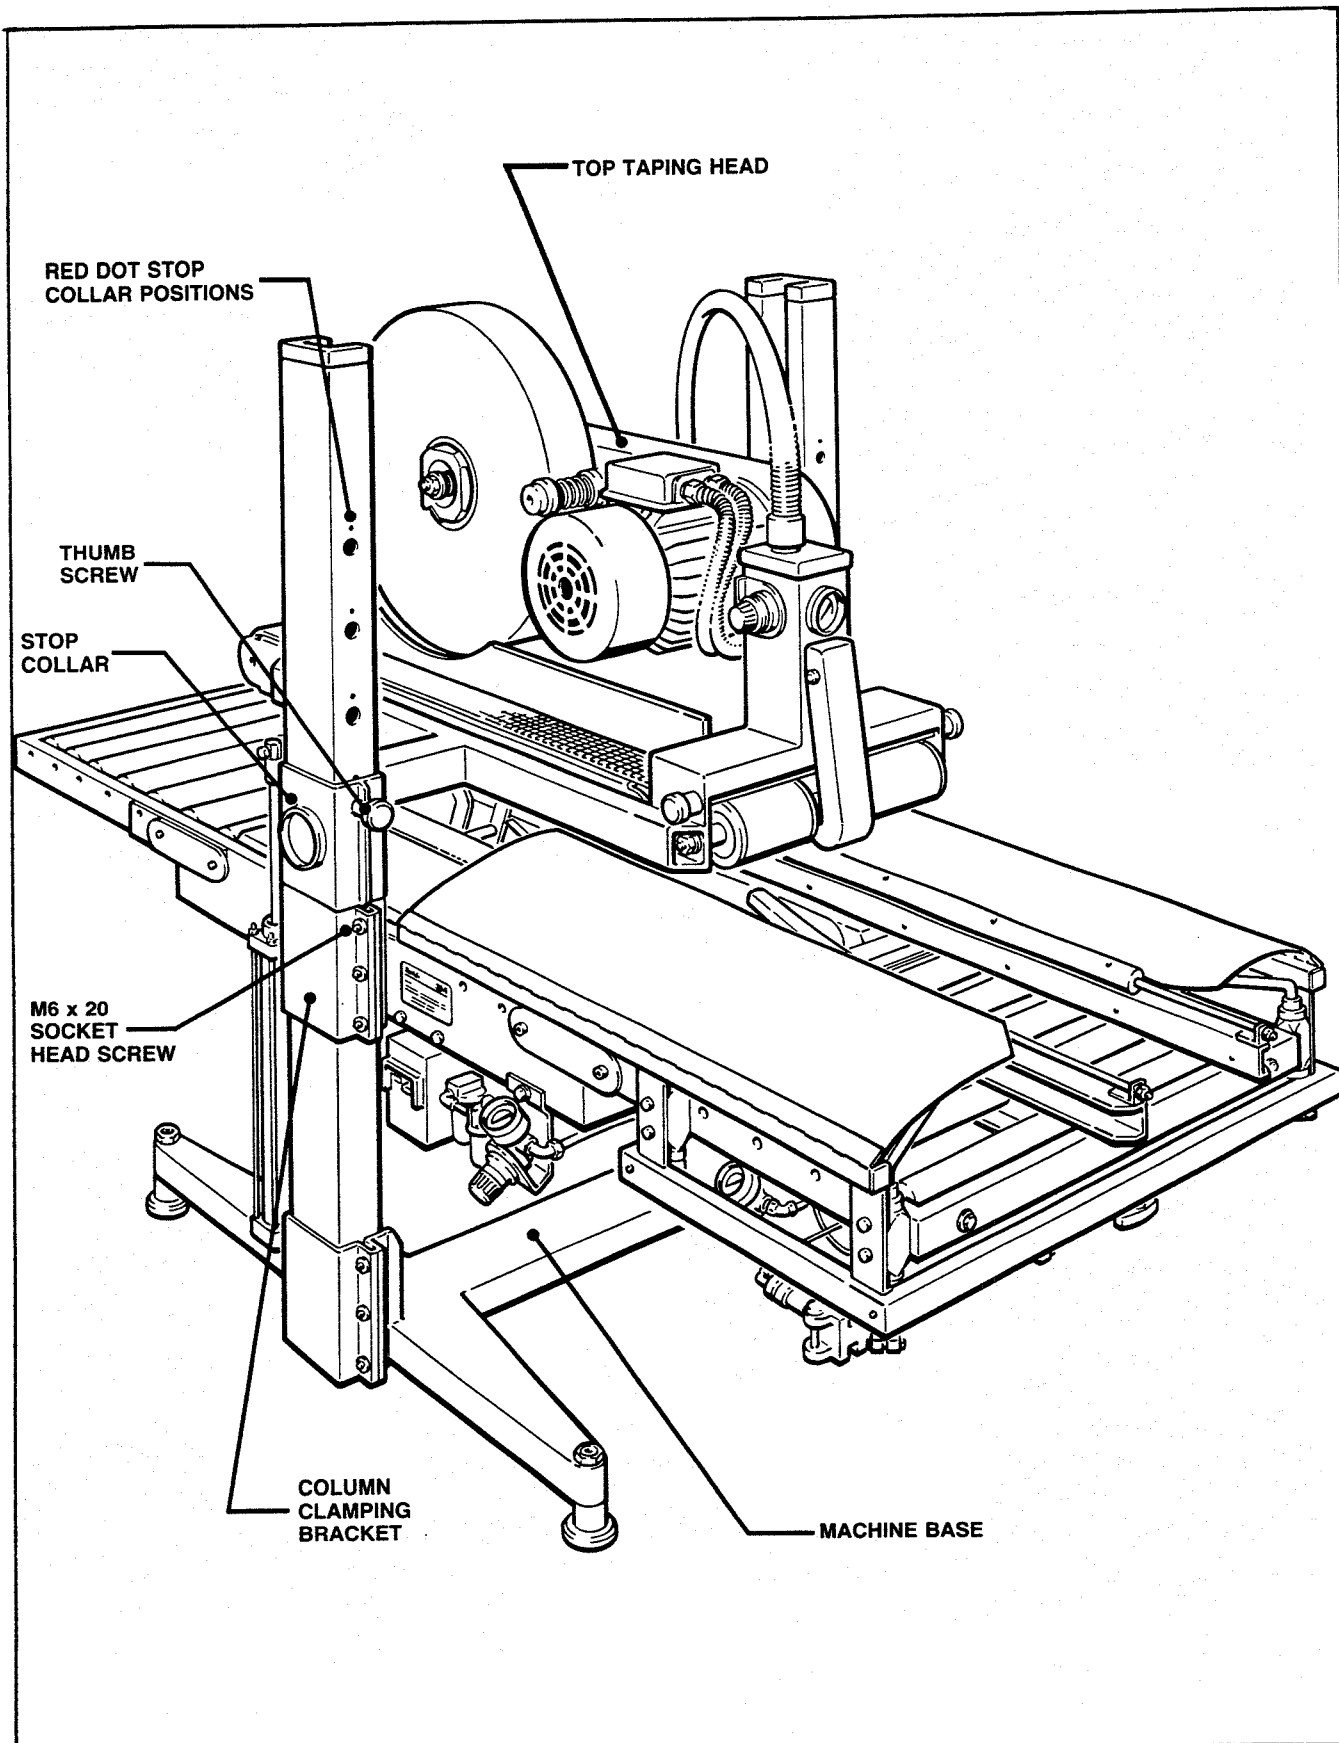

Figure 20 - Conveyor Height, Box Height Range, And Box Width Range
To hold the top taping head at the fully raised position for tape threading and maintenance, a latch is provided to hold the valve lever closed. To engage the latch, manually rotate the knob (2) on either side of the valve lever forward and hold there, manually depress valve lever (1), and then release knob. Top taping head will then be held at the fully raised position. As an added safety precaution, refer to Figure 20 and raise the stop collars to the last red dot position just below stoppered position of the top taping head. To lower top taping head, lower stop collars then release latch by manually rotating the knob forward and then release. Top taping head will then descend.